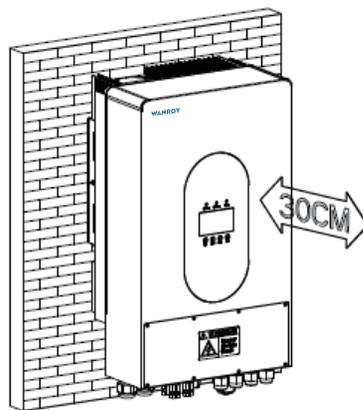

Figure 6
- Ensure adequate heat dissipation by following the minimum clearance requirements from walls, other inverters, or objects, as shown in the table below and in Figure 6.